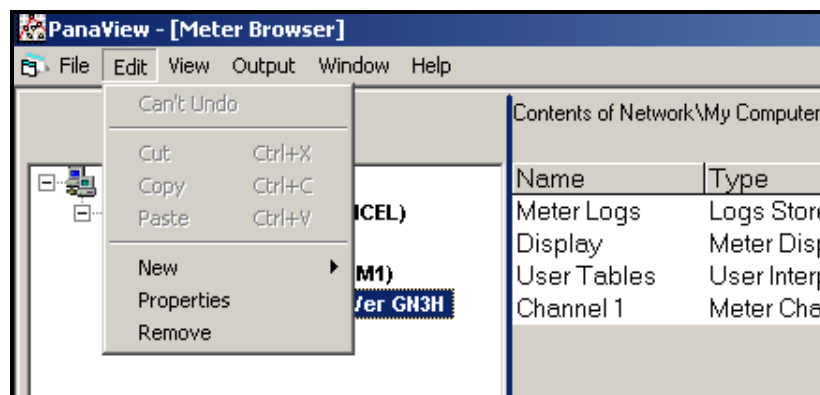

Figure 5-3: *Properties* Option in the *Edit* Menu
2. Open the *Edit* menu and select the *Properties* option, as shown in Figure 5-3 below.